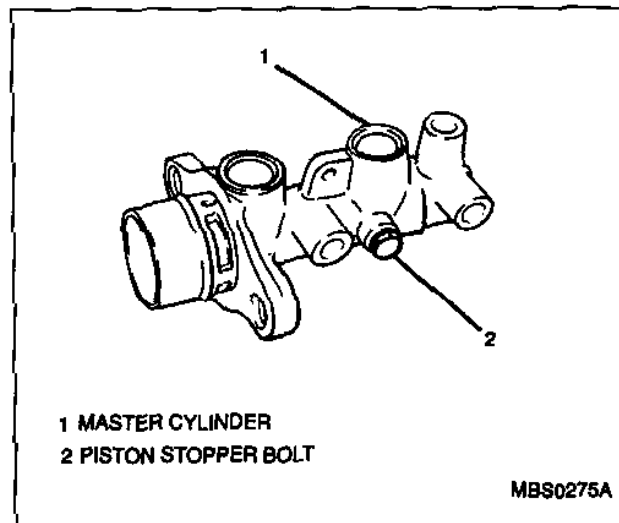

Figure 9—Piston Stopper Bolt
4. Secondary piston using compressed air through the piston stopper bolt hole (Figure 9).